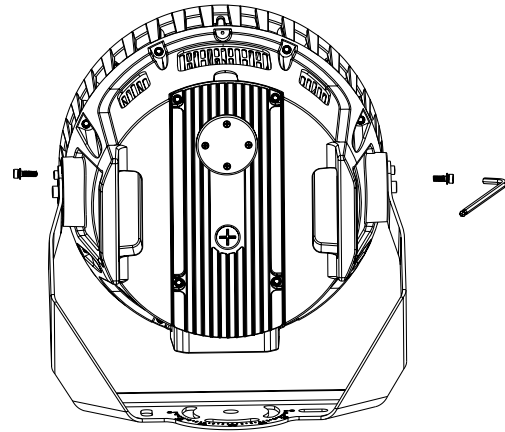

Figure 2
- Fix it with M6 screws after adjusting to the required angle (Figure 2).